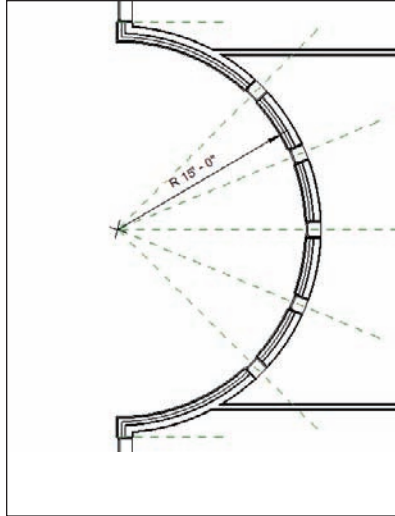

FIGURE 5.22 Adding the second radial dimension
5. Pan all the way to the west radial end of the west wing, as shown in Figure 5.22.
7. Dimension to the finished outside face of the brick, and place your dimension in a location similar to that shown in Figure 5.22.